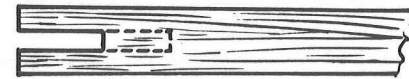

Figure 96
Piece (A)—1st cut—Dado in horizontal position. (See Figure 96.)